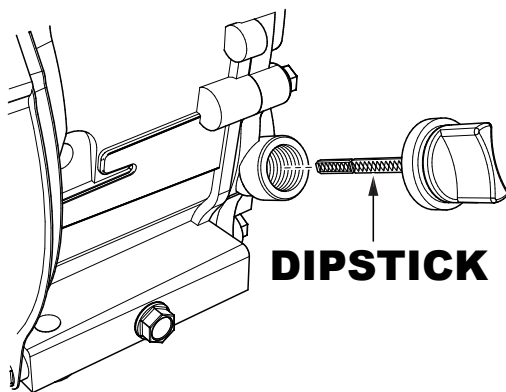

Figure 3. Engine Oil Dipstick Removal
2. Remove the dipstick (Figure 3) from the engine oil filler hole and wipe it clean.